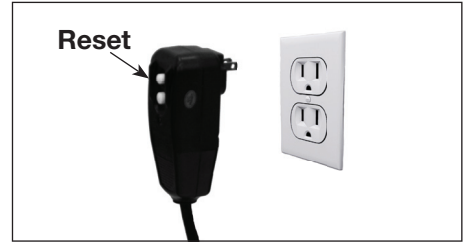

Figure 17 - Grounded plug/reset button
6. Plug the power cord into a grounded 120V outlet, that is on a dedicated circuit. Do not use extension cord. Press the reset button on the GFCI plug adapter. This must be done each time the unit is plugged into an outlet. (Figure 17)